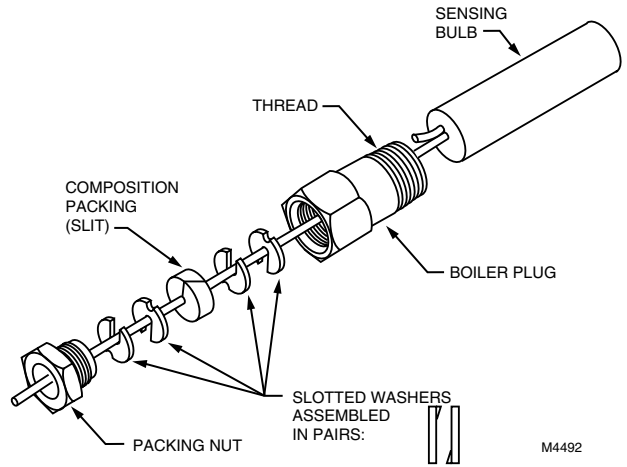

Fig. 3. Compression fitting installation.
**Using Compression Fitting (Fig. 3)**